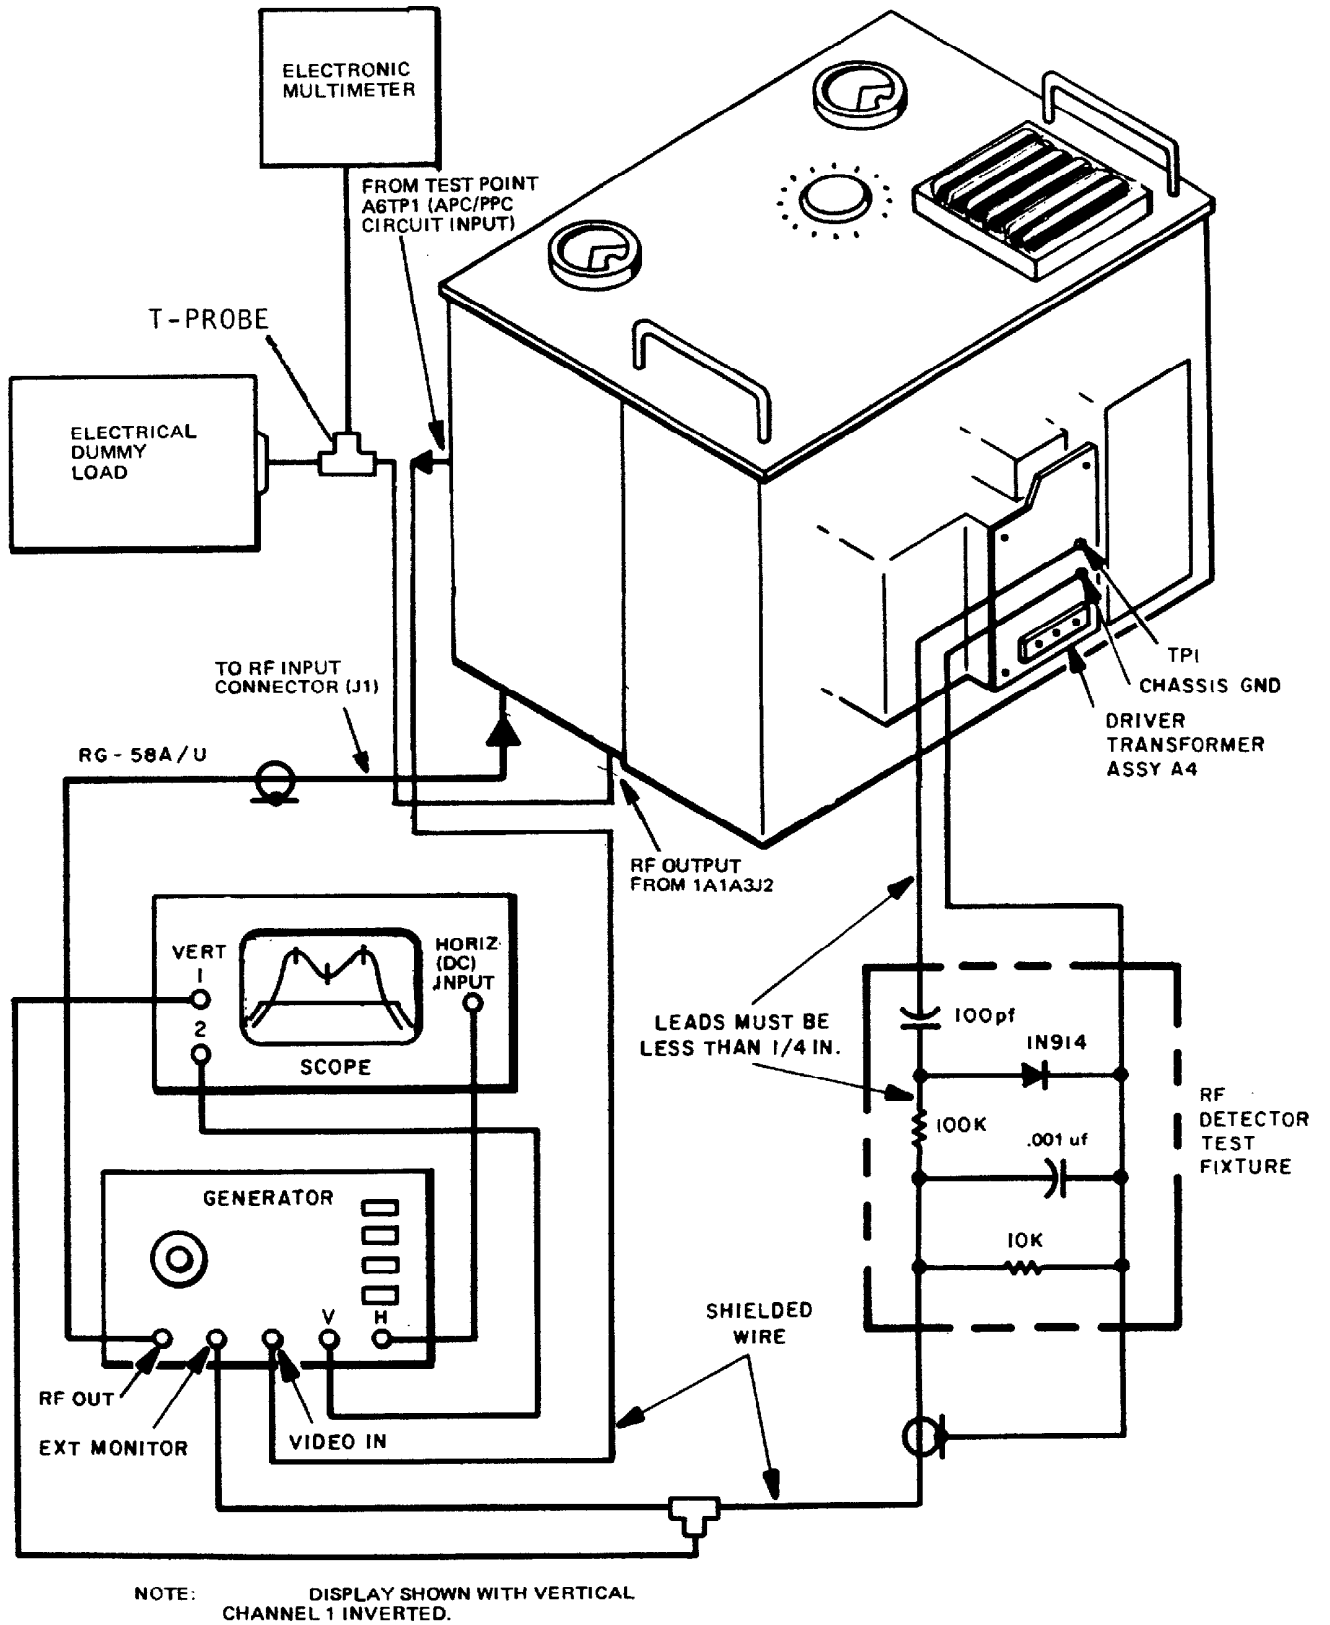

Figure 5-2. Final Transformer Alignment, Test Setup
e. Finish connecting the test setup as shown in figure 5-2.